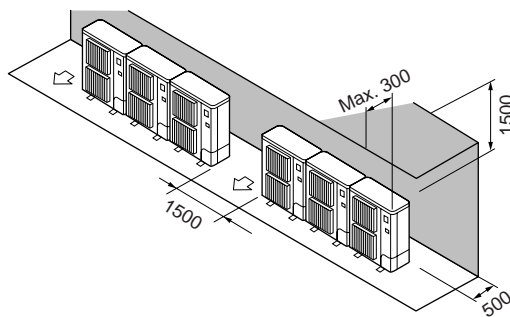

Fig.2-11
- Obstacles at rear and above only (Fig. 2-11)